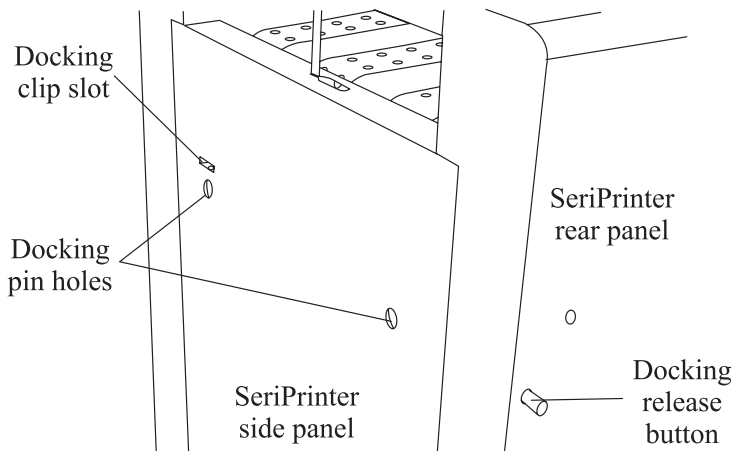

Figure 9
- 4.2. Slide the Digital Duplicator to the SeriPrinter. Do not move the SeriPrinter. The pins and clip of the Docking bracket must align with the holes on the SeriPrinter. When the two machines are docked correctly they will “CLICK” into each other. Refer to Figure 9.
- 4.3. To disconnect the two machines, press the release button on the rear panel of the SeriPrinter. This will release the pins and the Digital Duplicator can be moved. See Figure 9.